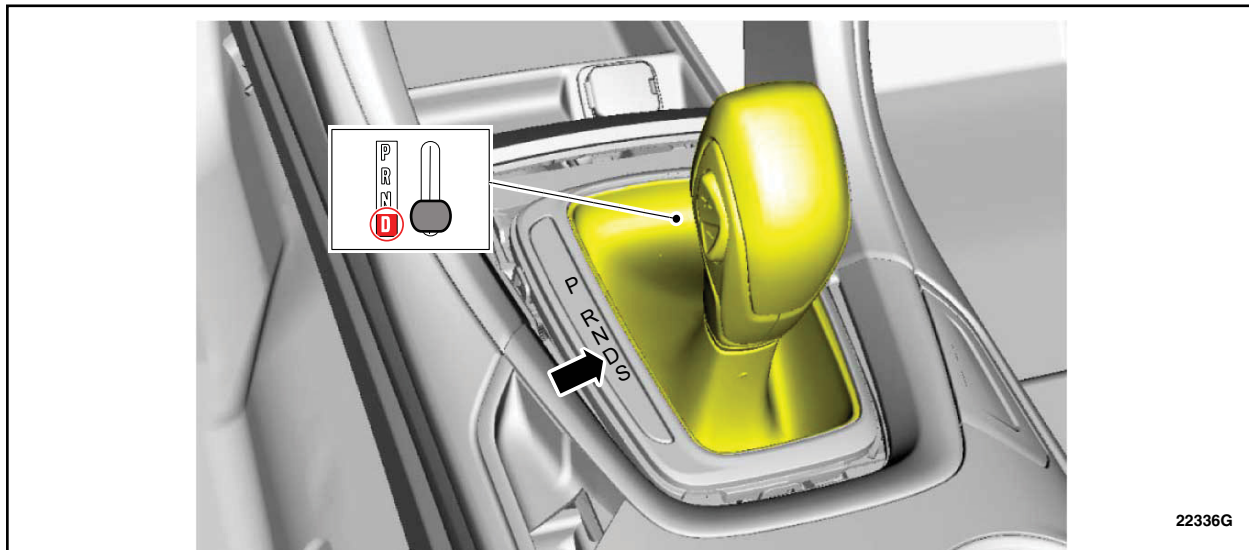

FIGURE 7
8. The vehicle's transmission gear selector lever should be in Drive position from Step 2, if not, position the selector lever to Drive (D). See Figure 7.